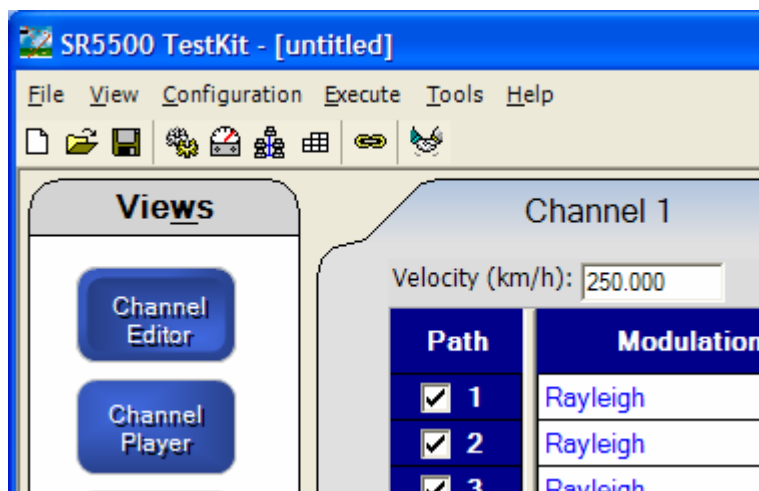

Figure 1-7: SR5500 TestKit Software Menus
7. Launch the instrument control software SR5500 TestKit on the PC by clicking the **TestKit** icon  on the desktop. After launching the SR5500 TestKit application, complete the connection to the SR5500 by clicking the **Connect** icon  shown in Figure 1-7.